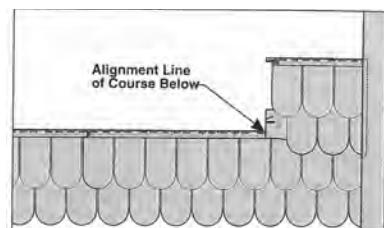

Fig.14
- b. Round Cut – Align Left Side Flange with nearest Alignment Line of course below that allows for proper fit into corner post or J-channel (see Figure 14).
- a. Measure the distance from the first RIGHT Alignment Line "0" of the course below to the edge of the corner post or J channel plus 1/4" (see "A" on Figure 14).